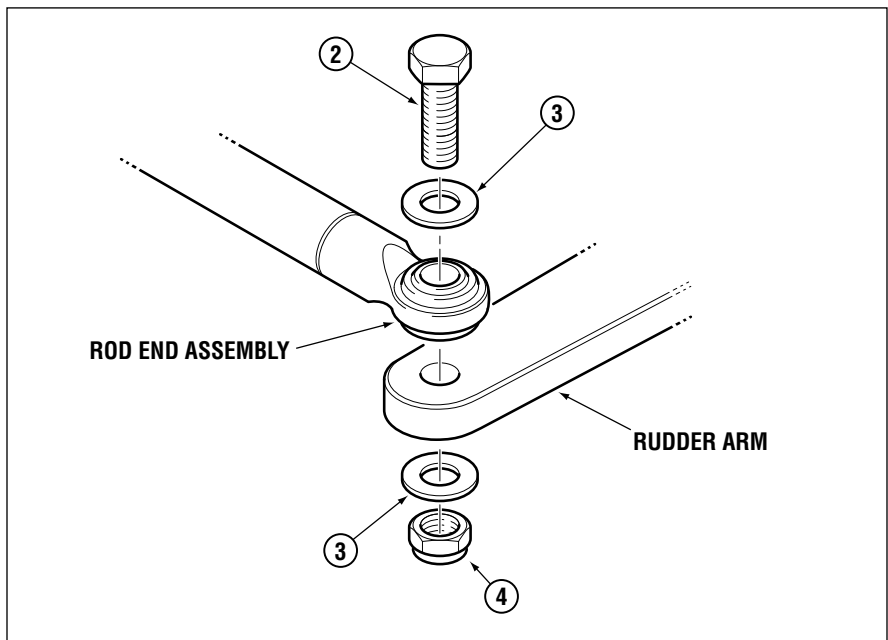

Figure 10. Attaching Rod End Assembly to Rudder Arm.
3. Assemble 1/2" x 2-1/4" bolt (item 2) and washers (items 3) into rod end assembly and rudder arm, as shown in Figure 10.
4. Torque nuts (item 4, Figure 10) to 43 ft-lb (58.3Nm).
The SeaStar HC5331-3 steering cylinder is **NOT** compatible with some early model power steering rams. Although the cylinder will still mount to these rams, loss of articulation and possible damage to the steering ram may result. Please identify your power steering cylinder by comparing your clevis bracket to the 4 drawings shown below. The HC5331-3 **IS** compatible with units identified by figures 10 to 12, it is **NOT** compatible with the clevis bracket shown in figure 16.